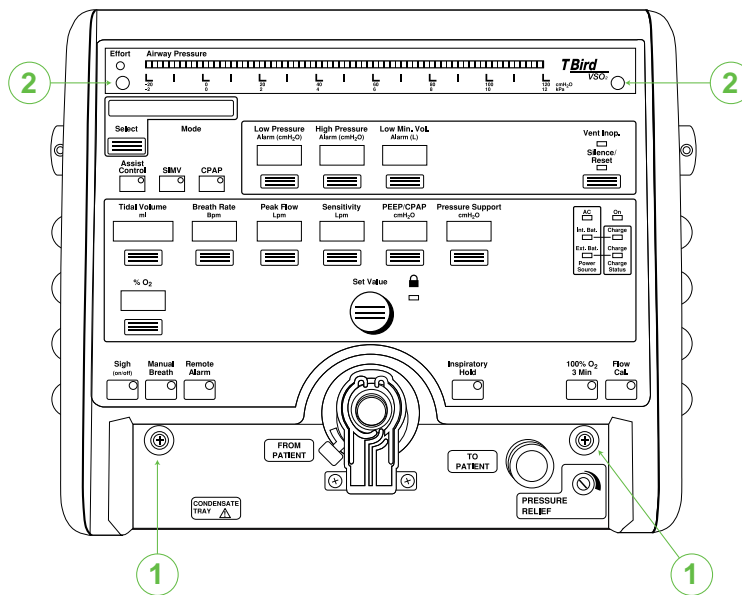

Figure 5-10. Front Panel Encoder Removal
2. Referring to Figure 5-10 Ref. 1, remove the two (2) screws that secure the front panel assembly to the ventilator base and rock the front panel forward.
- b) Remove the two (2) screws from the upper corners of the control panel (Refer to Figure 5-10 Ref. 2).
- b) Remove the two (2) screws from the lower part of the front panel (Refer to Figure 5-10 Ref. 1) and remove the front panel from the ventilator.